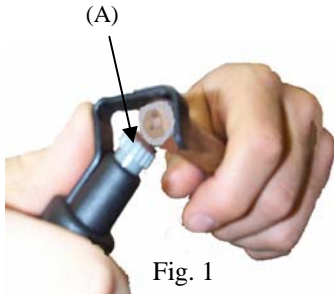

Fig. 1
Step 1. (Fig. 1) Adjust the cutting depth of the blade to the insulation thickness by rotating the knurled head (A).